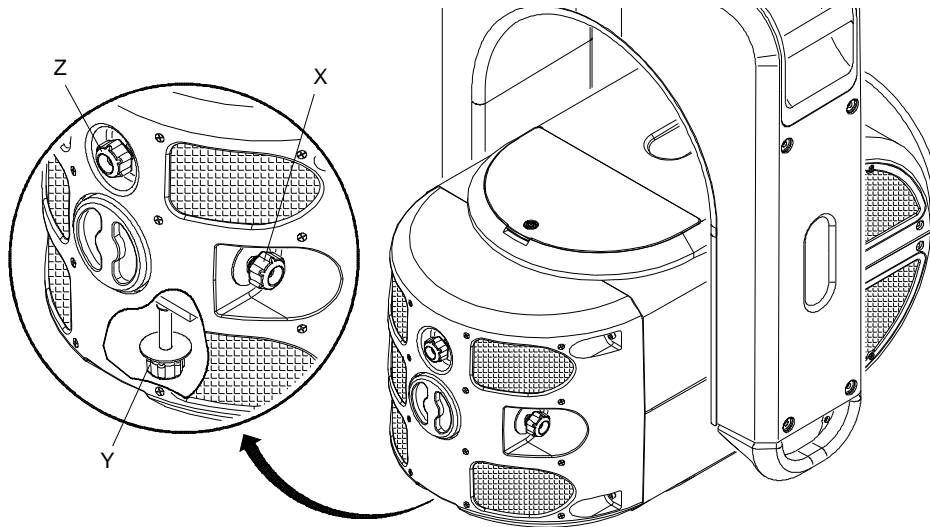

Figure 4-9: Adjusting the Lamp
- Step 5. At backcap, using horizontal (X) and vertical (Y) knobs, adjust hot spot to center of beam (**Figure 4-9.**)
- Step 6. Using focus (Z) knob, adjust beam to flatten hot spot.